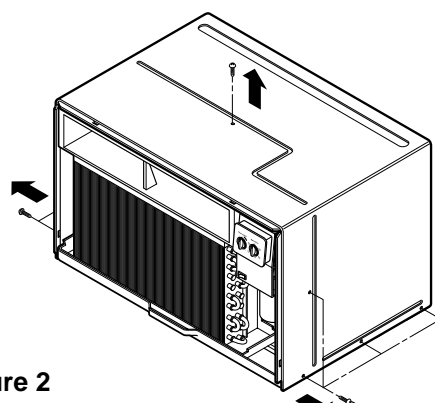

Figure 2
1. After disassembling the FRONT GRILLE, remove the 9 screws which fasten the cabinet at the both sides and the top. (See Fig. 2)